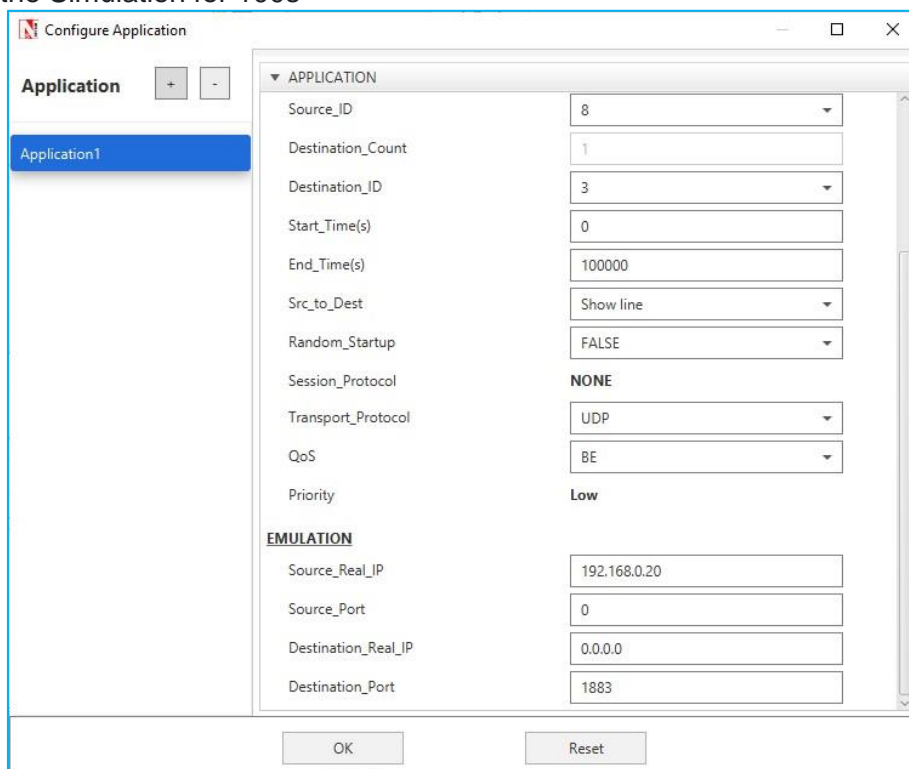

Figure 8: NetSim Application Panel
- Create Emulation application between Sensor and Cloud (Also users can specify port if known) as shown in **Figure 8**.